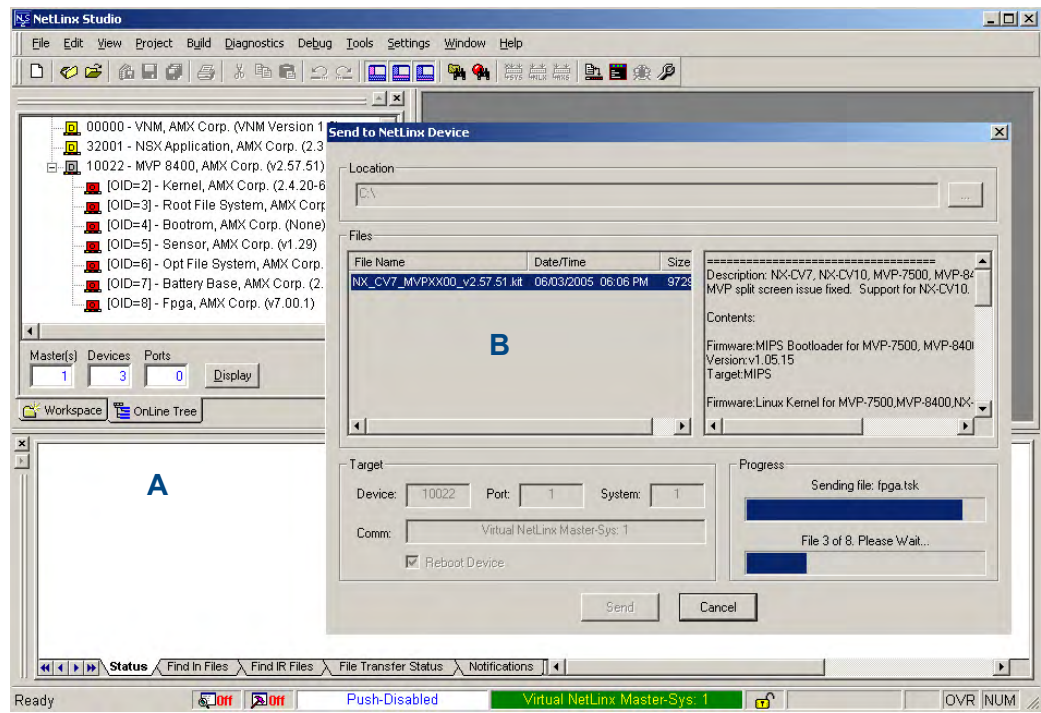

FIG. 84 Using USB for a Virtual Master transfer
7. Select **Tools > Firmware Transfers > Send to NetLinx Device** from the Main menu to open the *Send to NetLinx Device* dialog (B in FIG. 84). Verify that the panel's System and Device number values match those values listed within the System folder in the **OnLine Tree** tab of the Workspace window (A in FIG. 84).
11. Click **Send** to begin the transfer. The file transfer progress is indicated on the bottom-right of the dialog (B in FIG. 84).